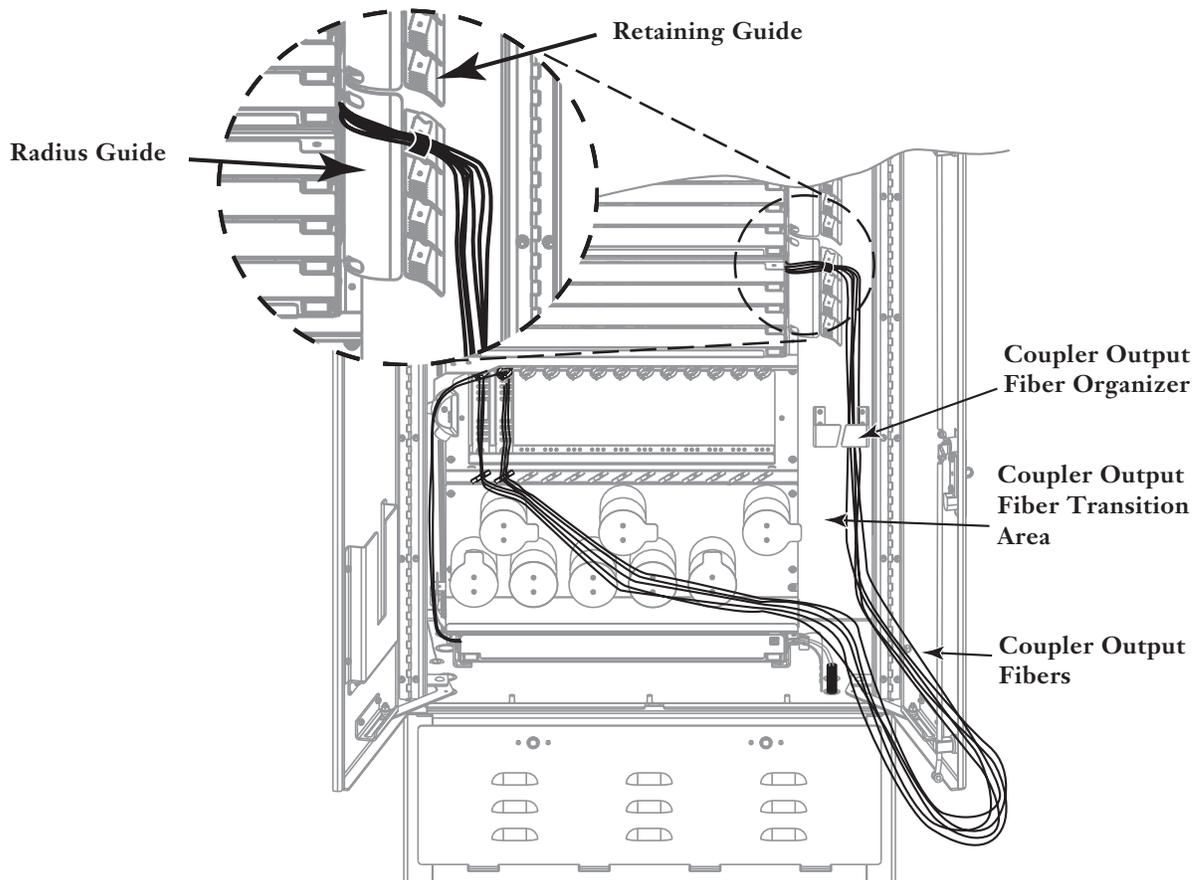

Figure 5 — Route Coupler Output Fibers to HDF Shelf
- Step 3** Open the appropriate drawer in the designated HDF shelf where the connection will be made. Take the fiber over the retaining guide next to that drawer and around the radius guide into the shelf (Figure 5). Loosely secure the fiber to the retaining guide with the attached hook-and-loop strap.